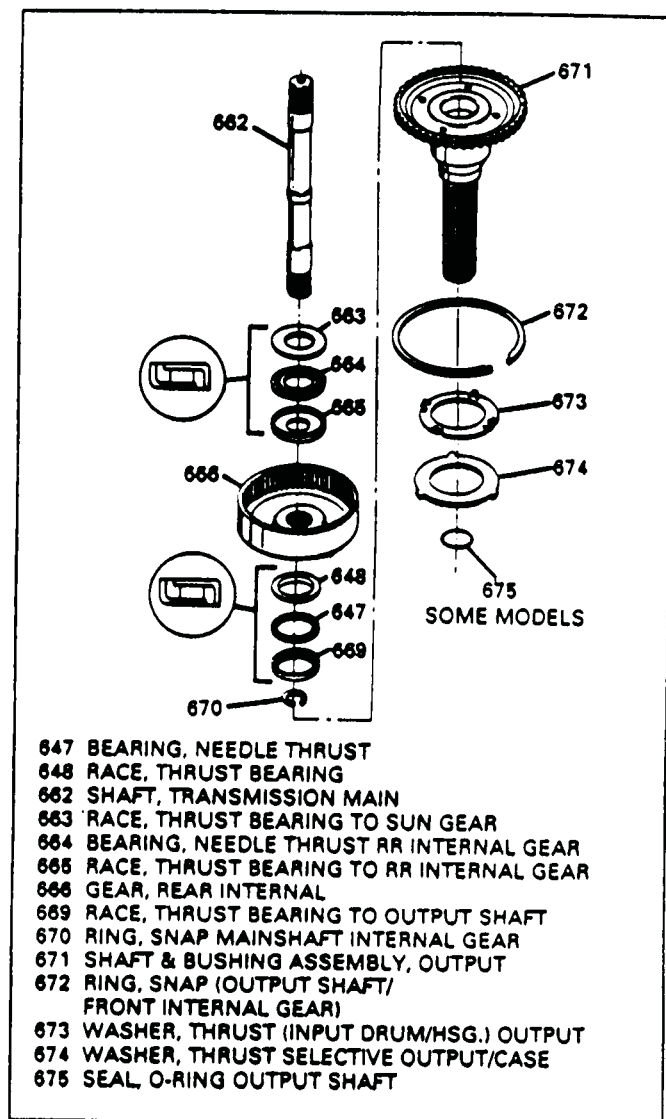

Figure 62
1. Install main shaft into rear ring gear (If Removed), and install snap ring on main shaft (See Figure 62).
2. Install inner race (648) with lip up, thrust bearing (647) and outer race with lip down, onto rear ring gear hub and retain with petrolatum (Figure 62).
3. Install outer race (665) with lip up, thrust bearing (664) and inner race (663), with lip down onto main shaft. (See Figure 62).
5. Install output shaft into output carrier assembly, and install snap ring. (See Figures 62 and 64).
6. Install thrust washer on back of output shaft, and retain with petrolatum. (See Figure 62).